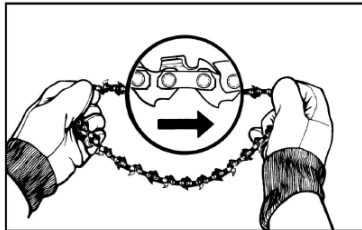

Fig. 3B
3. Pass the saw chain over the drive wheel with the cutting edges of the chain pointing in the direction of rotation (Figure 3B).